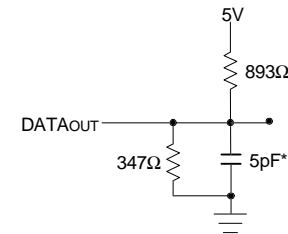

Figure 2. Output Test Load
1. Transition is measured $\pm 500\text{mV}$ from Low or High-impedance voltage with Output Test Load (Figure 2).
1. Transition is measured $\pm 500\text{mV}$ from Low or High-impedance voltage with the Output Test Load (Figure 2).
7. This parameter is guaranteed by device characterization, but is not production tested. Transition is measured ±500mV from steady state with Output Test Load (Figure 2).